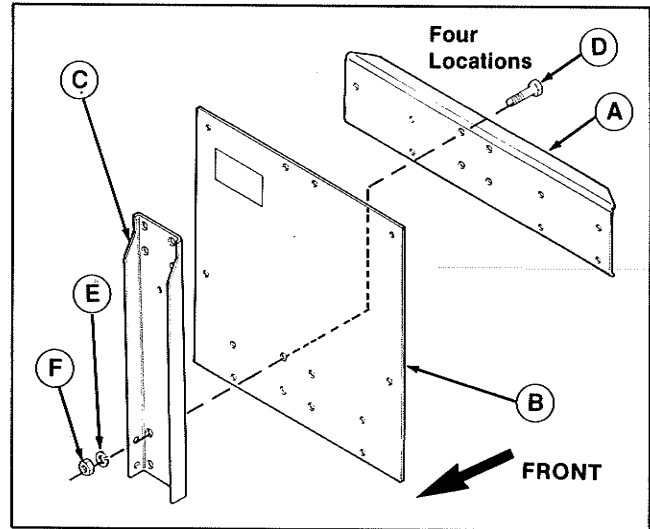

Figure 13.
20. Align the four middle holes of rear (horizontal) support (A, figure 13) onto back plate (B) and vertical support (C). Install four 3/8-16 x 1" capscrews (D, from rear) and secure with lockwashers (E) and nuts (F). Leave hardware loose.